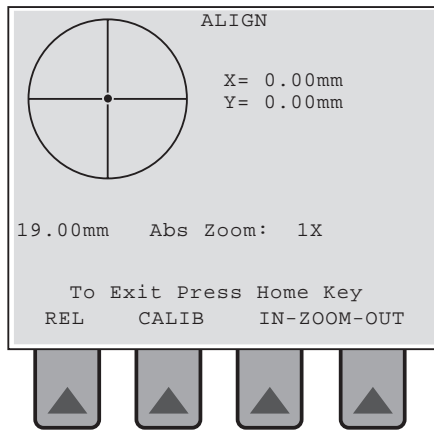

Figure 7. Alignment - Quadrant Thermal Detector Head CW
**Align Screen** - The Align screen, shown in Figure 7, displays the position of the beam on the detector and allows use of quadrant thermal detector heads for optical system alignment. The displayed target at 1X resolution represents the clear aperture of the detector with aperture size shown in mm just below the target.